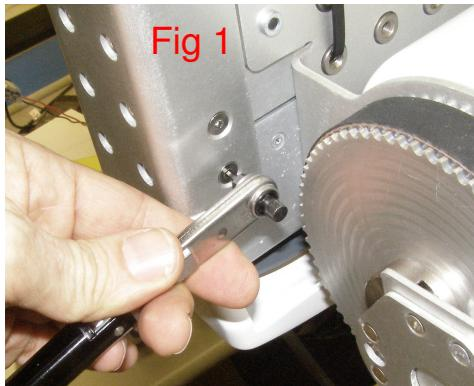

Fig 1
2. Using the 3mm bit with the T-handle driver, remove the screw. 3065-10 (Fig 1)
4. To facilitate screw removal disconnect the 3 connectors as shown and carefully move the cables out of the way as needed to gain access to the mounting screws. (Fig 1)
4. Tilt the Head completely forward and using the 2.0mm right angle torque wrench together with the 2.5mm short bit with (OUT) facing up, remove the 6 Flathead screws. 3064-08 (Fig 1,2)